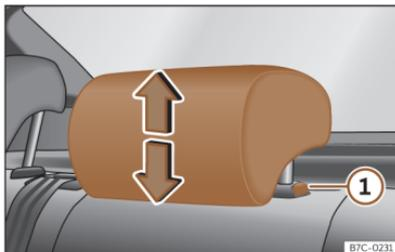

Fig. 98 Rear headrest: adjusting the headrest.
- Grab the sides of the head restraints with both hands and push upwards to the desired position. To lower it, repeat the same action, pressing the button on the side ① >>> **Fig. 98**.